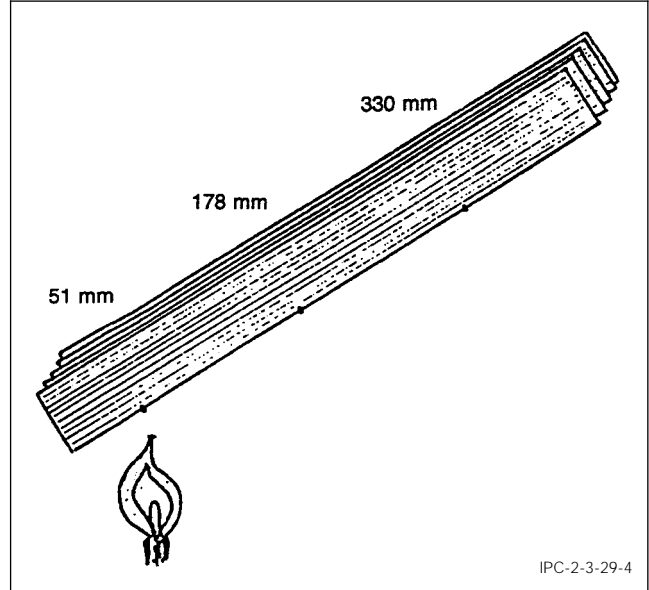

Figure 4 Underside of Five Cables
5.1.4 Tape five full-width specimens together and otherwise tested as in 5.1.2 (see Figure 4).